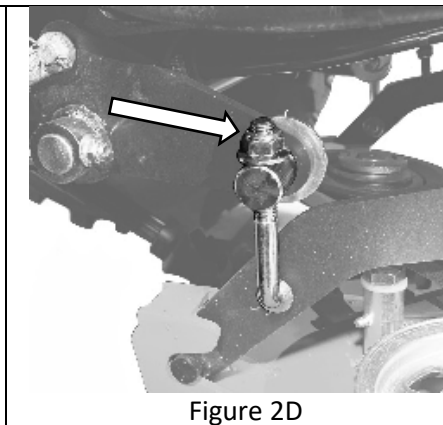

Figure 2D
2. Set the nut on the L-Joint Pins to 1/4" below the end of the bolt (Figure 2D).